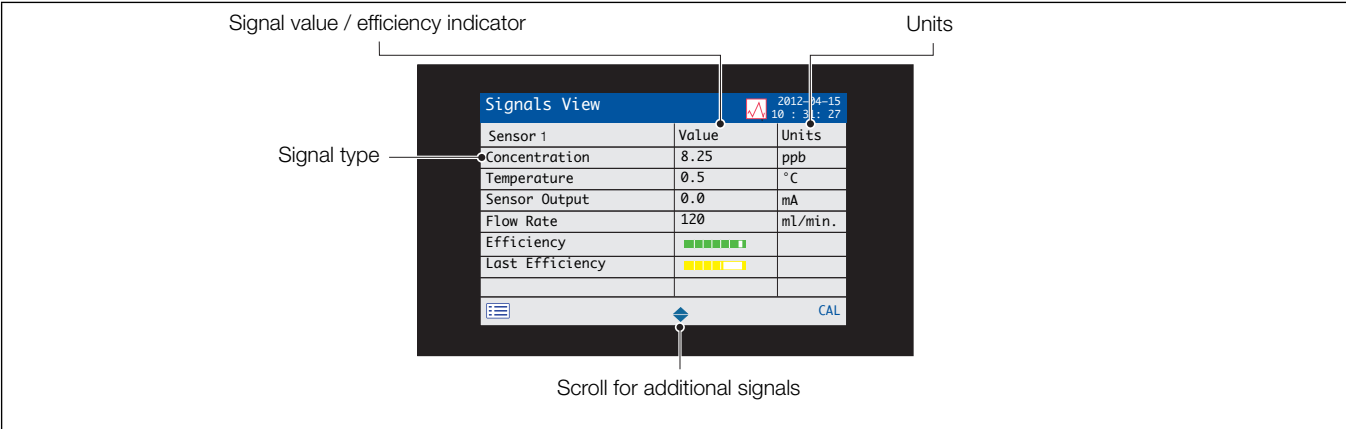

Fig. 6.9 Signals View
- *Signals View* – displays a list of active signals and their values – see Fig. 6.9